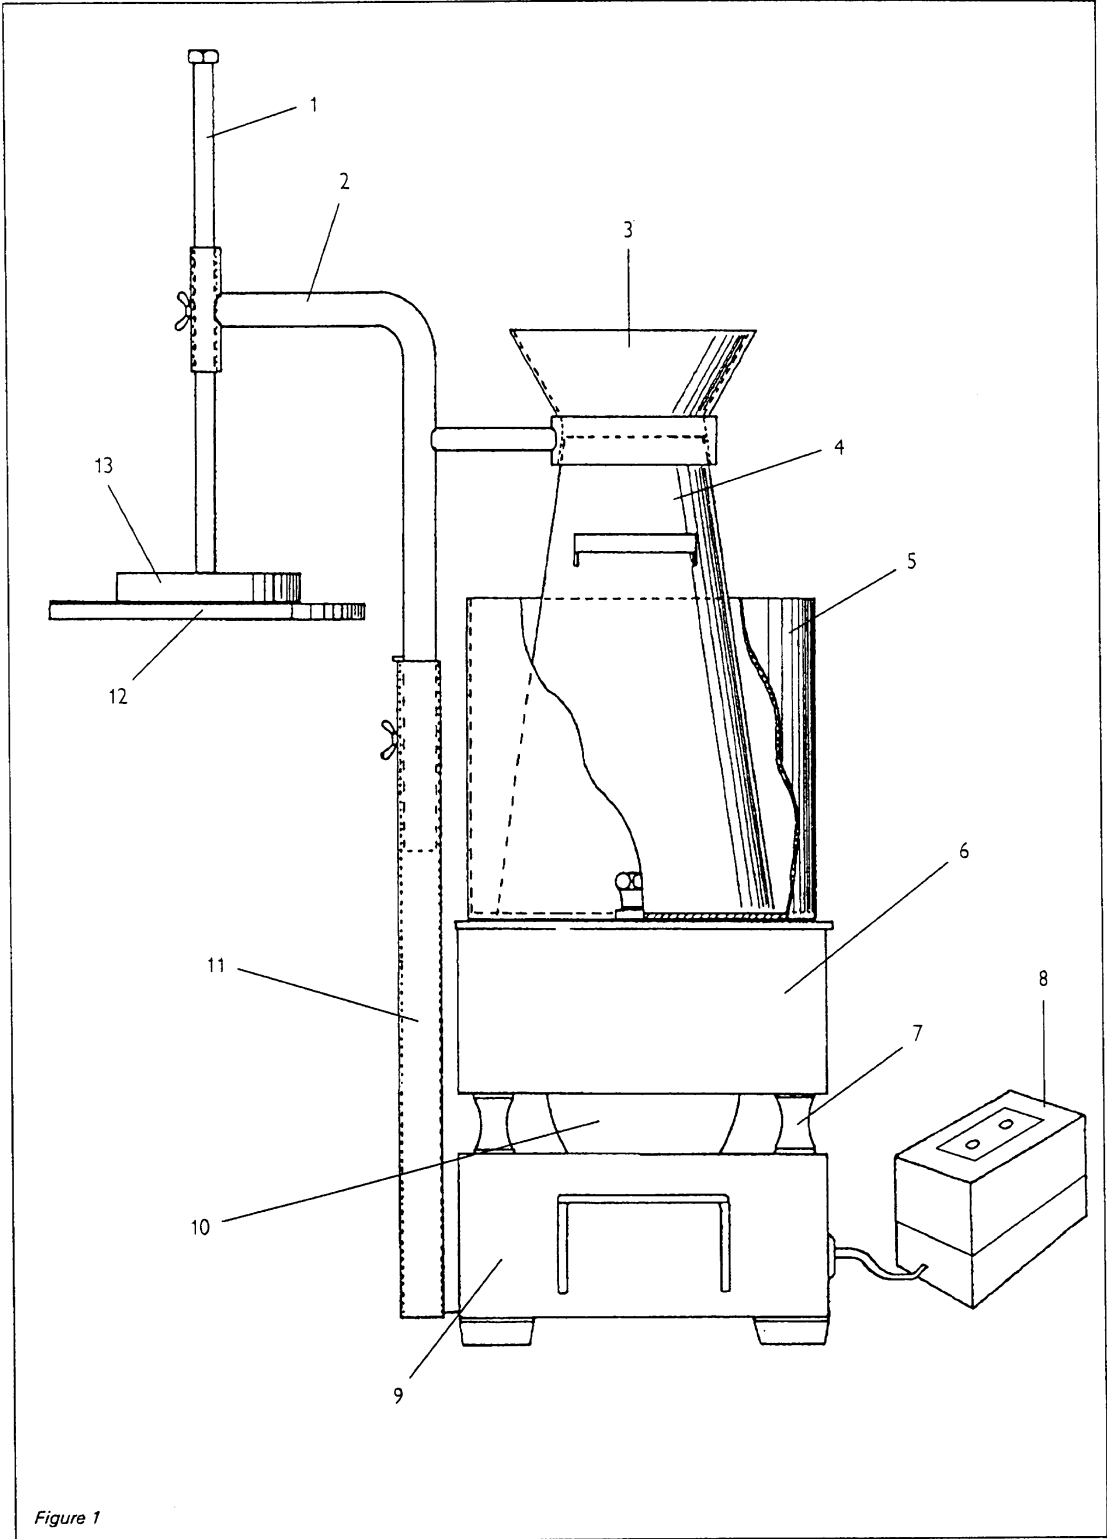

Figure 1
- 3.2 The vibrating table (see figure 1)